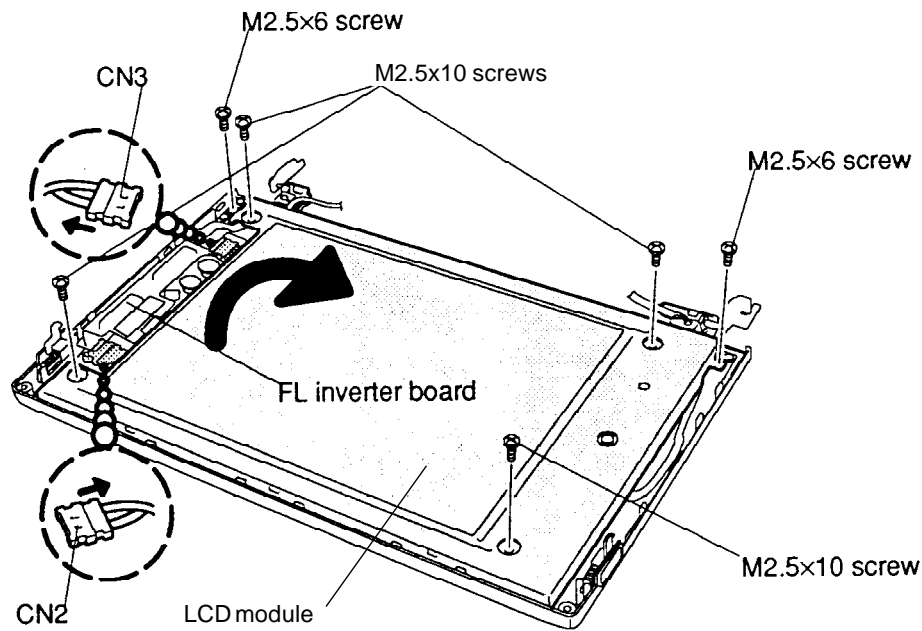

Figure 4-39 Removing the T4600C's TFT Color LCD
To remove the T4600C's LCD module, follow these steps and refer to Figures 4-39 and 4-40.
To install the T4600C's 9.5-inch TFT color LCD, follow the steps below and refer to Figures 4-39 and 4-40.
2. Connect the two FL cables to **CN2** and **CN3** on the **FL inverter board** (Figure 4-39).
3. Align the 9.5-inch TFT color LCD and secure it with **two M2.5x6 screws**. Then secure the **four 2.5x10 screws** (Figure 4-39).